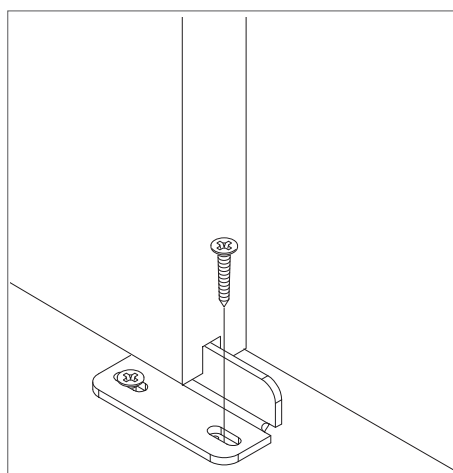

Figure 15
20. Install the second 1" phillips screw (provided) using a drill with a phillips bit (Figure 15).